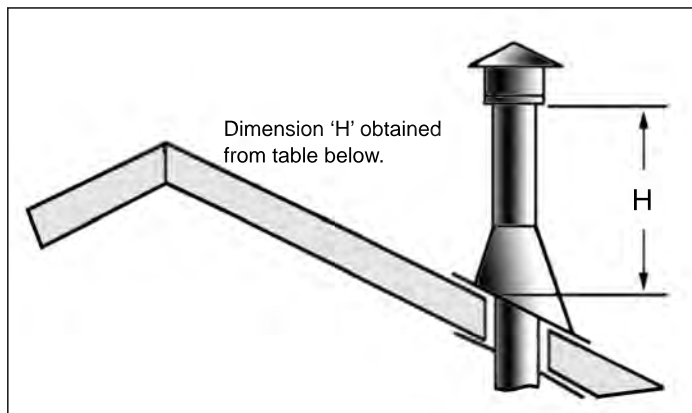

**Figure 48. Vertical Vent Termination**
**Step 3.** To install the Round Support Box/Wall Thimble in a flat ceiling, cut a 10 inch (25.4 cm) square hole in the ceiling, centered in the hole drilled in Step 2. Frame the hole as shown in Figure 48.
- STEP 6.** Once the pipe sections have been joined, and run up through the hole in the roof, slip an elbow strap over the exposed sections, bend the support straps outwards, and push the elbow strap down to the roof level, as shown in Figure 48. Tighten the clamp around the pipe section. Use a level to make sure the pipe is truly vertical. With roofing nails, secure the support straps to the roof. Seal the nails holes heads with non-hardening mastic. Trim the excess length of the support straps that extend out beyond the edge of the flashing.